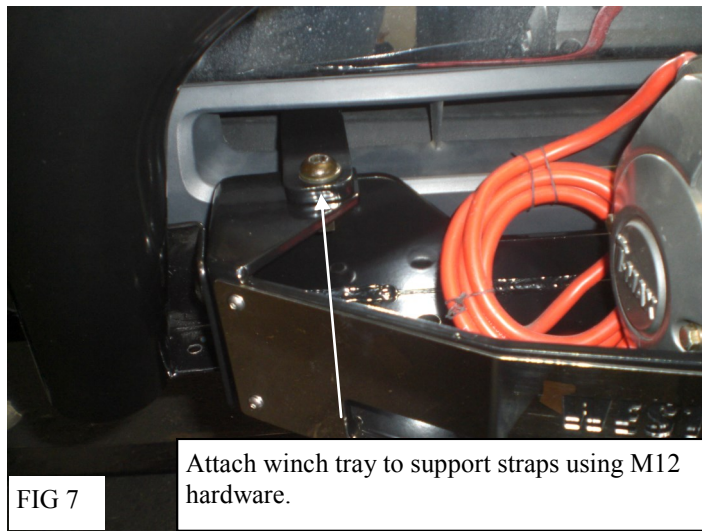

FIG 7
8. Attach the winch tray to the upper support straps using (2) M12 button head bolts, (8) M12 flat washers, (4) M12 lock washers, and (4) M12 hex nuts . Do not fully tighten at this time. FIG 7
11. If installing the Sportsman winch tray grille guard, with assistance align the grille guard with the mounting holes located in the lower winch tray brackets and the winch tray. Use the included spacers between the lower mounting brackets and the grille guard. FIG 7. Attach the grille guard to the lower brackets using the (4) M12 button head bolts, (8) M12 flat washers, (4) M12 lock washers, and (4) M12 hex nuts; attach the grille guard to the winch tray using the (2) M10 button head bolts, (4) M10 flat washers, (2) M10 lock washers, and (2) M10 hex nuts. NOTE: for part # 45-92230 and 40-92235 the hardware is stainless steel. Do not fully tighten at this time.